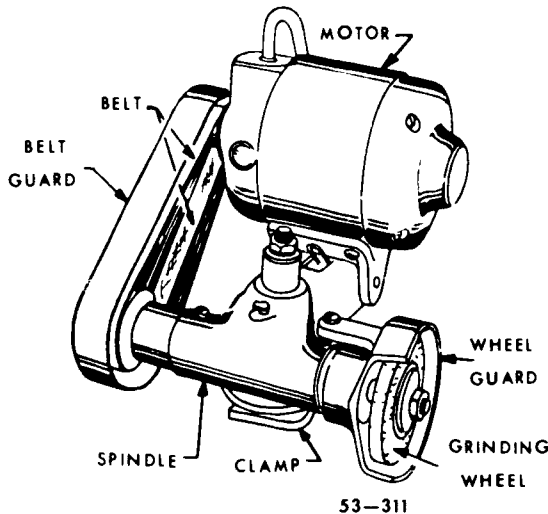
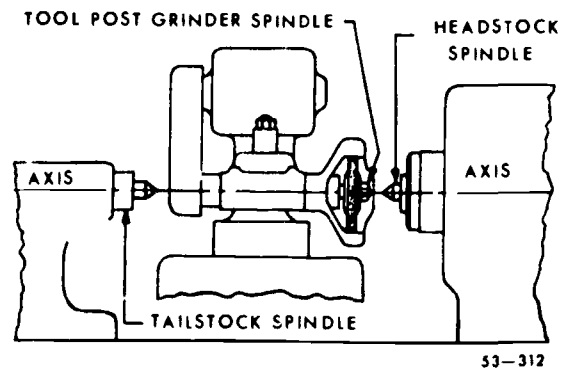

Figure 5-55 Toolpost grinder
Figure 5-56. Mounting the grinder at center height
**Toolpost Grinder.** The toolpost grinder is a portable grinding machine that can be mounted on the compound rest of a lathe in place of the toolpost, and it can be used to machine work that is too hard to cut by ordinary means or to machine work that requires a very fine finish. Figure 5-55 shows a typical toolpost grinder. The grinder must be set in center, as shown in figure 5-56. The centering holes located on the spindle shaft are used for this purpose. The grinding wheel takes the place of a lathe tool bit. It can perform most of the operations that a tool bit is